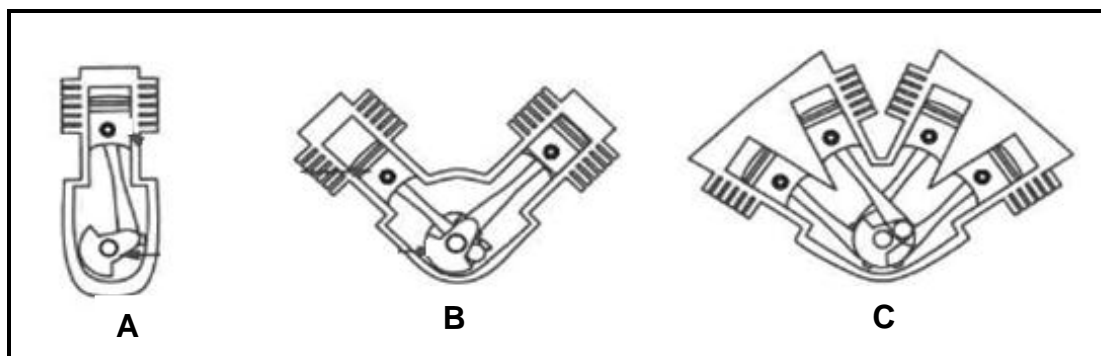

FIGURE 6.3
- 6.3 Identify the different types of engine layouts, as shown in FIGURE 6.3.